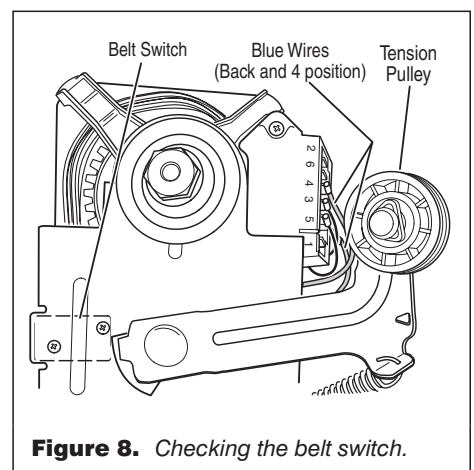

Figure 8. Checking the belt switch.
8. Check the belt switch by measuring resistance between the two blue wires as shown in figure 8, while pushing up the belt switch pulley.